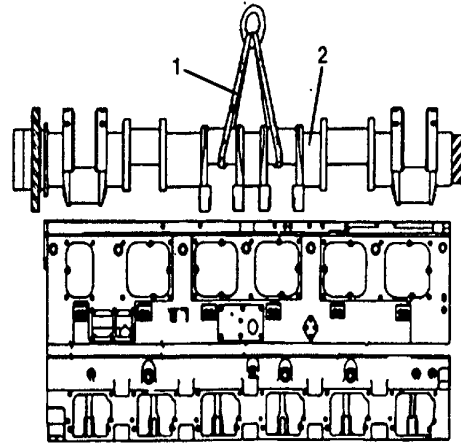

FIGURE 4-50. Crankshaft Removal/Installation
- g. Attach a sling (1, FIG. 4-50) to the crankshaft (2). Remove crankshaft using a suitable overhead lifting device.
- d. Use a suitable hoist and lifting device to carefully lower the crankshaft into position (FIG. 4-50). Ensure the end of the crankshaft with the gear that has the smallest diameter points toward the front of the block.